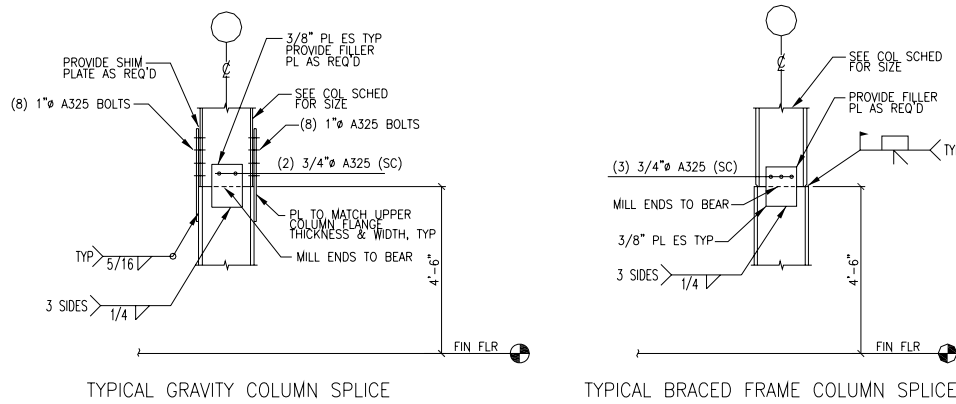

Figure 3: Typical Column Splice Details
Columns are ASTM 992 Grade 50 rolled W12 steel shapes with splices on the third and fifth floors. Splice connections use welds and 3/4" diameter A325 bolts. Web bolts are slip critical, to connect plates. (See Figure 3 below). The largest columns are W12x136 and are part of the lateral system. Gravity columns range from W12x40s at the roof level to a maximum size of W12x106 at ground level. Base plates are either 18x18 or 20x20 with thicknesses ranging from 1 3/4" to 2 1/2". Connections consist of (4) anchor bolts of varying sizes.